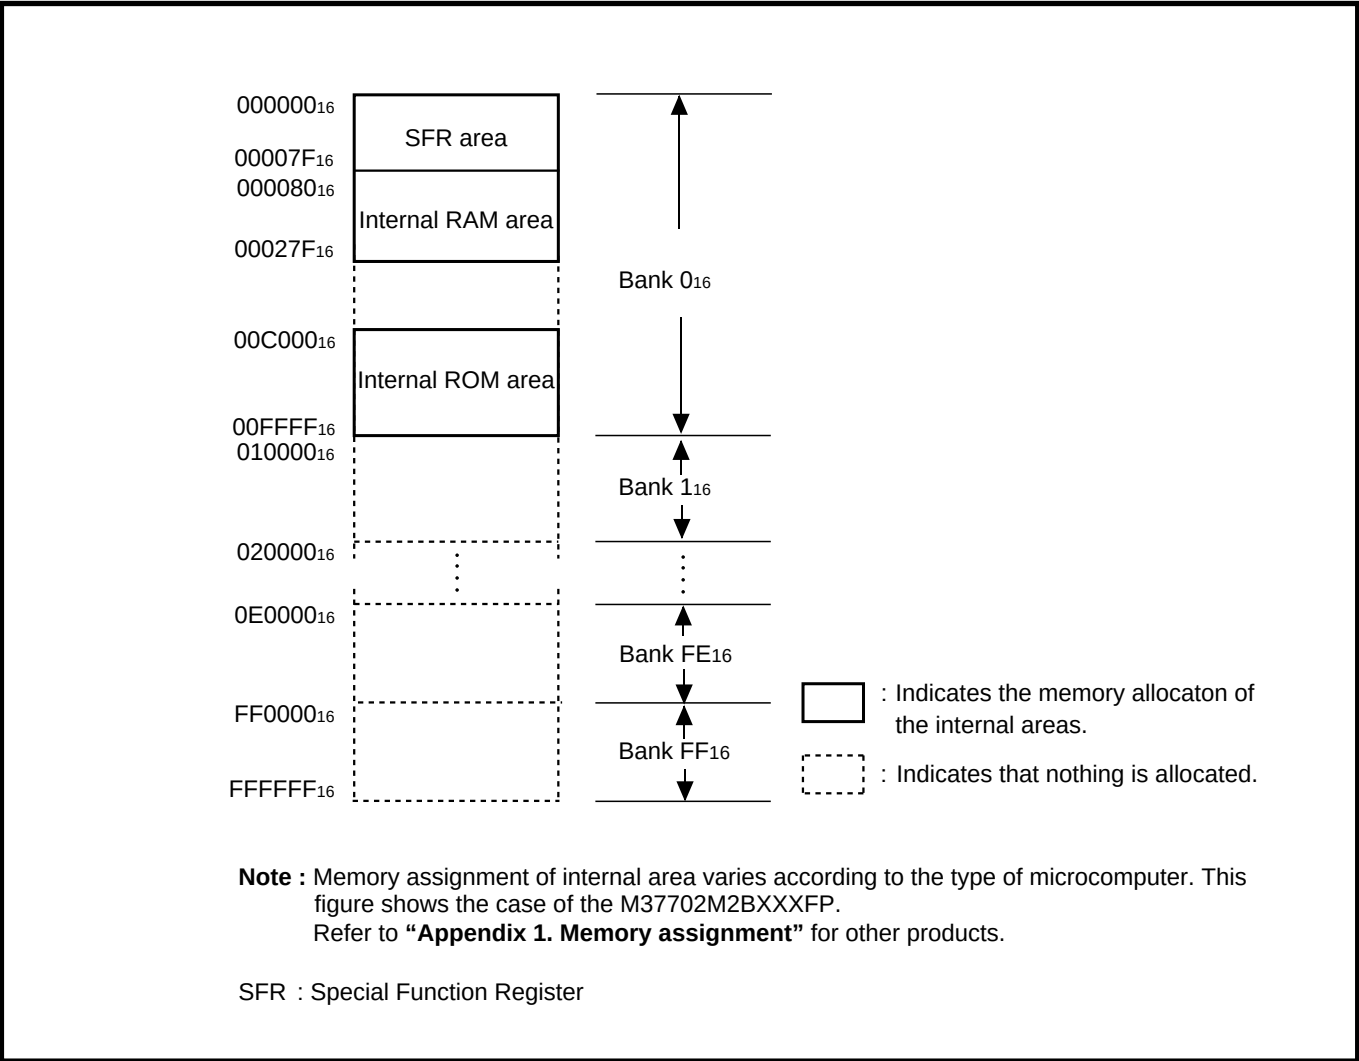

Fig. 2.3.1 M37702's access space
Figure 2.3.1 shows the M37702's access space. By combination of the program counter (PC), which is 16 bits of structure, and the program bank register (PG), a 16-Mbyte space from addresses 000000₁₆ to FFFFFFF₁₆ can be accessed. For details about access of an external area, refer to “**Chapter 12. CONNECTION WITH EXTERNAL DEVICES.**” The memory and I/O devices are allocated in the same access space. Accordingly, it is possible to perform transfer and arithmetic operations using the same instructions without discrimination of the memory from I/O devices.